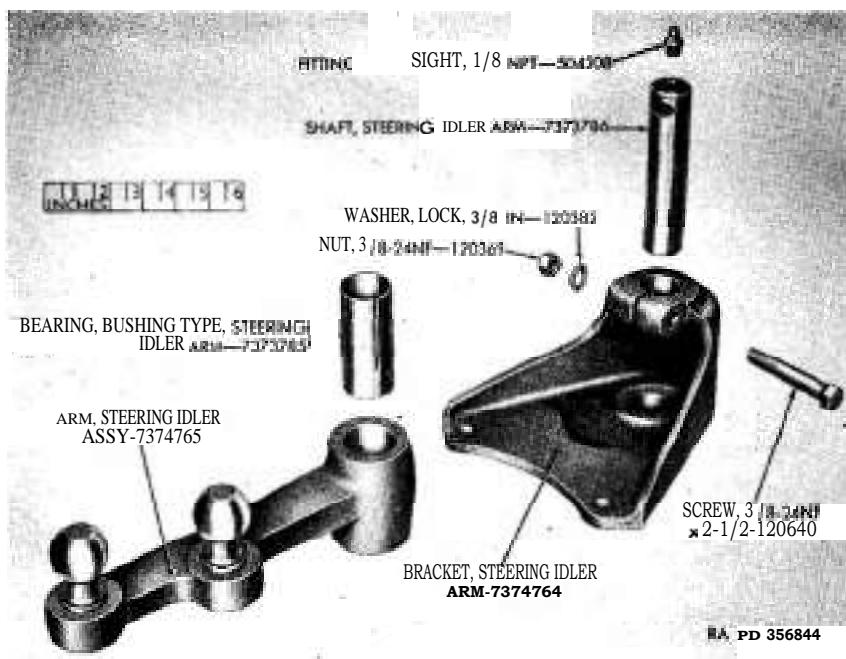

Figure 171. Steering idler arm assembly and steering idler arm bracket with related parts.
b. *Remove Lubricating Fitting, Steering Idler Arm Assembly, and Steering Idler Arm Shaft from Steering Idler Arm Bracket (fig. 171).*
- (1) Remove lubricating fitting from steering idler arm shaft.
- (2) Remove nut and lock washer from screw which clamps the steering idler arm bracket around steering idler arm shaft. Remove screw from bracket.
a. *Inspect Steering Idler Arm Assembly (fig. 171).*
- (1) Measure inside diameter of steering idler arm bushing-type bearing with an inside micrometer. If dimension exceeds wear limit indicated in paragraph 349, replace bearing (pars. 187 and 189).
- (2) Measure diameter of balls on steering idler arm with a micrometer. If dimension is less than the wear limit in paragraph 349, replace idler arm assembly.
- (3) Inspect idler arm for cracks and damage. If either condition exists, replace idler arm.
b. Inspect Steering Idler Arm Bracket (fig. 171).
- (1) Measure steering idler arm shaft openings in steering idler arm bracket with an inside micrometer. If diameter of openings exceeds the wear limits in paragraph 349, replace bracket.
- (2) Inspect bracket for cracks or damage. If either condition exists, replace bracket.
c. Inspect Steering Idler Arm Shaft, Screw, Nut, and Lubricating Fitting (fig. 171).
- (1) Measure diameter of steering idler arm shaft with a
- b. *Assemble Parts in Steering Idler Arm Bracket (fig. 171).*
- (1) Lubricate steering idler arm bushing-type bearing with general purpose lubricant (GO) and position steering idler arm assembly in bracket. Install steering idler arm shaft in bracket and through bearing in idler arm. Make certain that groove in shaft is in proper alignment with screw hole.
- (2) Install $\frac{3}{8}$ -24NF x $2\frac{1}{2}$ screw in bracket and make certain it engages with the groove in steering idler arm shaft. Install $\frac{1}{2}$ -inch lock washer and $\frac{3}{8}$ -24NF nut. Tighten nut.
- (3) Install $\frac{1}{2}$ NPT, straight, lubricating fitting in shaft.
- (4) Lubricate steering idler arm bushing-type bearing and steering idler arm shaft with general purpose grease (GAA).